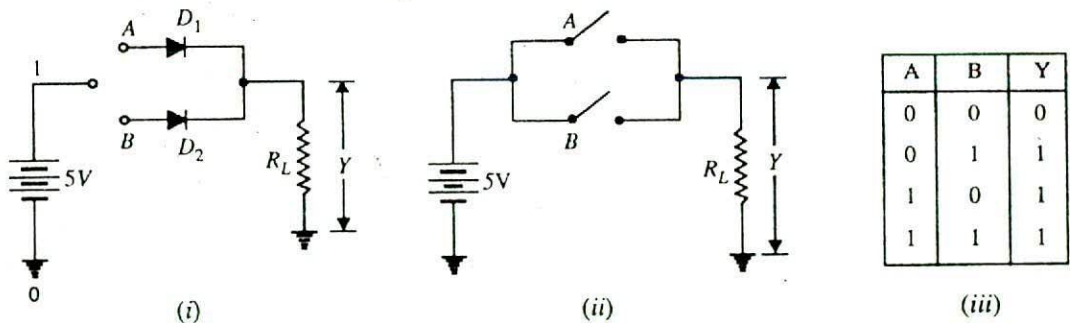

Fig. 27.6
OR gate operation. Fig. 27.6 (i) shows one way to build a 2-input OR gate while Fig. †27.6 (ii) shows its simplified schematic diagram. The input voltages are labelled as A and B while the output voltage is Y . Note that negative terminal of the battery is grounded and corresponds to 0 state (LOW level). The positive terminal of the battery (+5 V) corresponds to 1 state (HIGH level). There are only four input-output possibilities
- (i) When both A and B are connected to ground, both diodes are non-conducting. Hence, the output voltage is ideally zero (low voltage). In terms of binary, when $A = 0$ and $B = 0$, then $Y = 0$ as shown in the truth table in Fig. 27.6 (iii).
- (ii) When A is connected to ground and B connected to the positive terminal of the battery, diode D_2 is forward biased and diode D_1 is non-conducting. Therefore, diode D_2 conducts and the output voltage is ideally +5 V. In terms of binary, when $A = 0$ and $B = 1$, then $Y = 1$ [See Fig. 27.6 (iii)].
† As you can see in Fig. 27.6 (ii) that output is high when either or both of the input switches are closed but not when both are open.
- (iii) When A is connected to the positive terminal of the battery and B to the ground, diode D_1 is on and diode D_2 is off. Again the output voltage is +5 V. In binary terms, when $A = 1$ and $B = 0$, then $Y = 1$ [See Fig. 27.6 (iii)].
- (iv) When both A and B are connected to the positive terminal of the battery, both diodes are on. Since the diodes are in parallel, the output voltage is +5 V. In binary terms, when $A = 1$ and $B = 1$, then $Y = 1$ [See Fig. 27.6 (iii)].